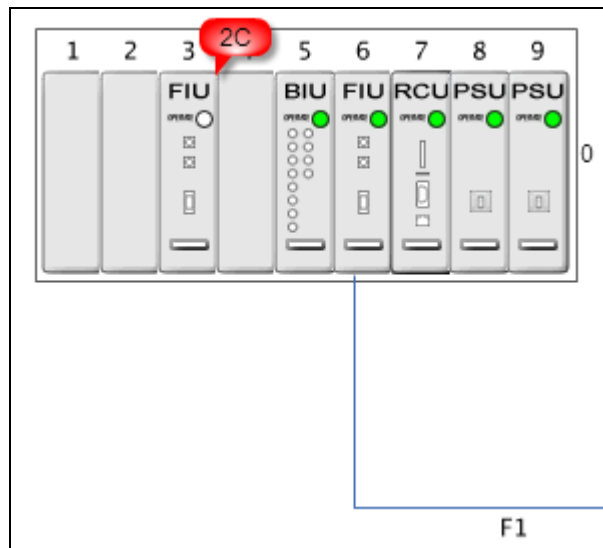

Figure 46 – Optical Link Alarms
1. Click on the RTM in the topology diagram and the component window will pop up on the right as shown in Figure 46- CM Optical Power Levels.